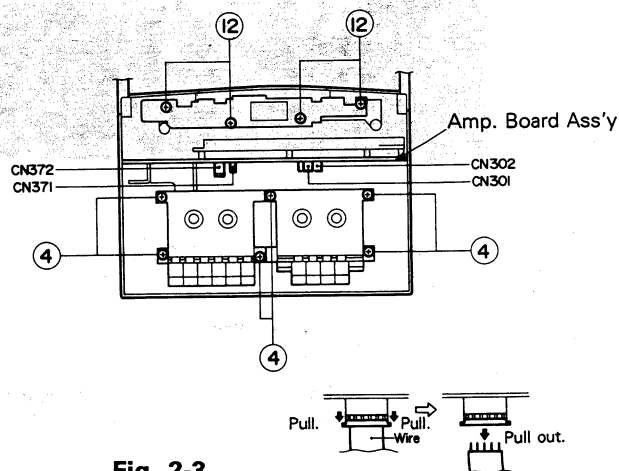
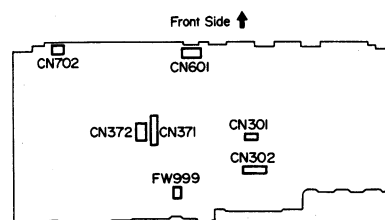

Fig. 2-3
Fig. 2-4
• Cassette mechanism assembly (Fig. 2-3, Fig. 2-4)
1. Remove six screws (4) retaining the mechanism assembly.
2. Remove four screws (12) to remove the control board assembly. (Fig. 2-3)